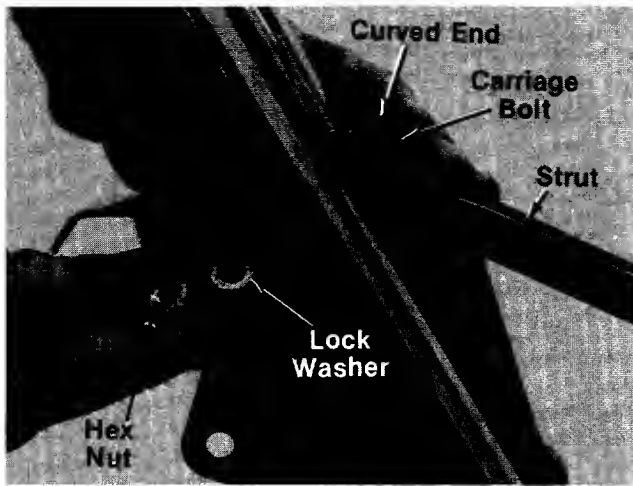

FIGURE 4.
1. Remove the carriage bolt, lock washer and hex nut from the upper right hand side of the handle panel. Place the carriage bolt through the curved end of one strut bar. Secure to handle panel, handle and bracket with lock washer and nut as shown in figure 4. Tighten finger tight only. Attach strut bar to the left side of the handle panel in the same manner.